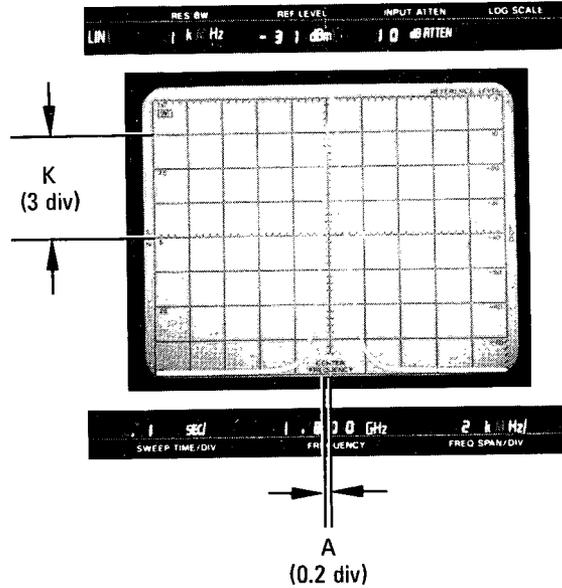

Figure 4-8. Residual FM to AM Conversion Display
- d. Adjust REF LEVEL FINE control to place signal peak at top graticule line. Carefully adjust TUNING control so upward slope of signal intersects the CENTER FREQUENCY graticule line one division down from the top as shown in Figure 4-8.
- e. Note the distance from the signal skirt at the horizontal center graticule line to the CENTER FREQUENCY graticule line at the center of the CRT. (In Figure 4-8 the distance is 0.2 division.)
Typical Example (Stabilized mode): In Figure 4-8, distance A is 0.2 division and distance k (a constant) is 3 divisions. Therefore:
- m. Adjust REF LEVEL FINE control to place signal peak at top graticule line. Carefully adjust TUNING control so upward slope of signal intersects the CENTER FREQUENCY graticule line one division down from the top as shown in Figure 4-8.